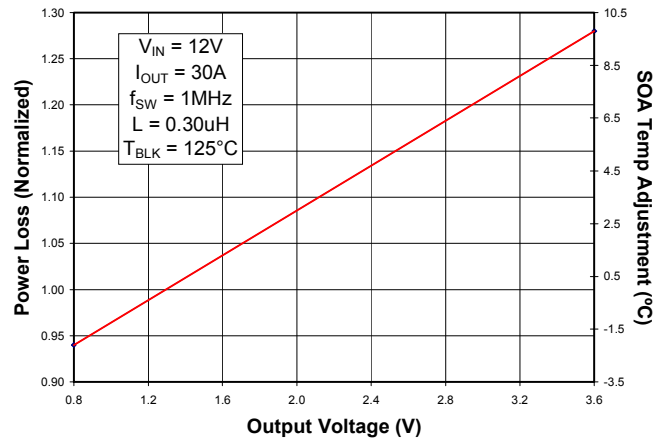

Fig. 4: Normalized Power Loss vs. V_{OUT}
- (Fig. 4) Normalized power loss for output voltage ≈ 1.24
- (Fig. 4) Normalized SOA Temperature for output voltage $\approx 8.4^{\circ}\text{C}$